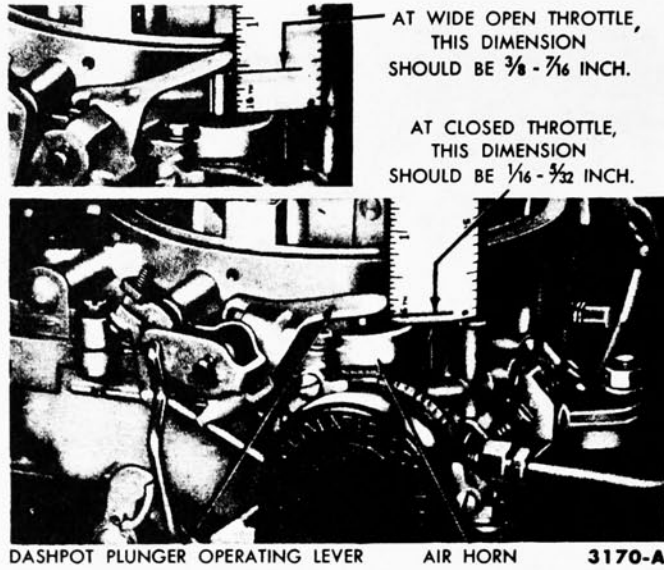

FIG. 6—Dashpot Adjustment (Carter Carburetor)
1. With the primary throttle plates closed to the normal idle position, there should be a $\frac{1}{16}$ - $\frac{5}{32}$ -inch clearance between the dashpot plunger operating lever and the top surface of the air horn (Fig. 6).